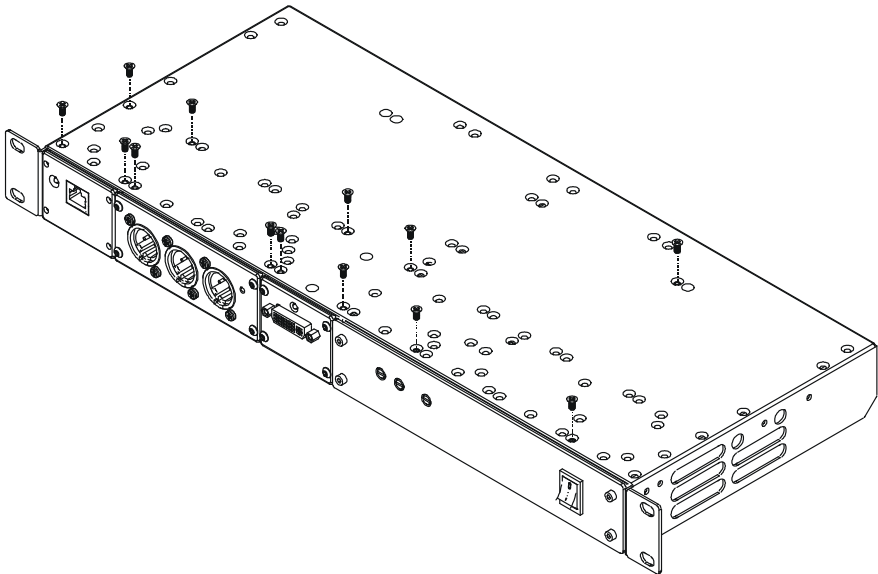

Figure 2: RK-1 Rack Adapter – Underside
3. Insert and the appropriate amount of screws through the holes on the **RK-1** that fit the holes on the underside of the **VM-9T**, using the M3x5 screws supplied with the unit (as illustrated in Figure 2).